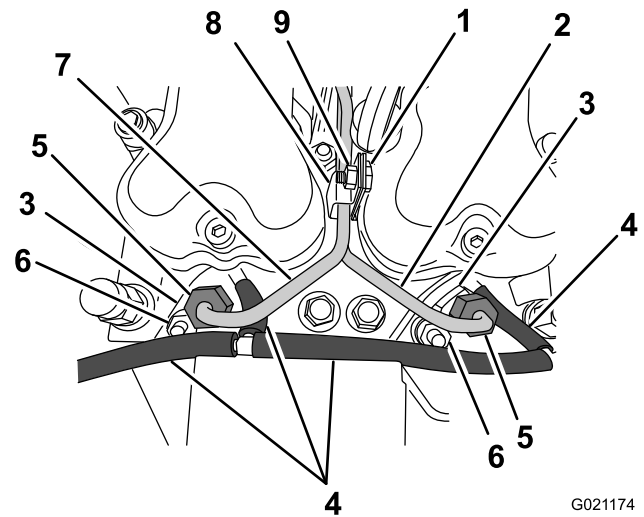
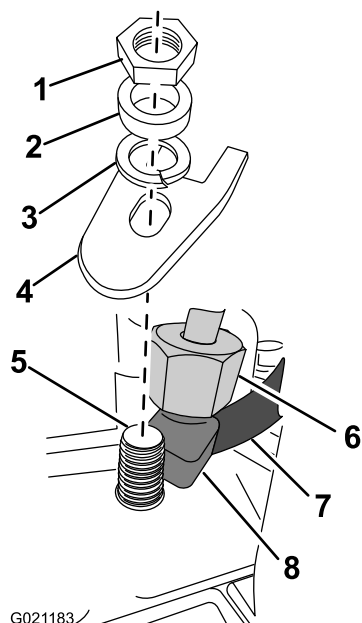

Figure 48
Figure 49
6. Loosen the tube nuts for both of the fuel injectors (Figure 48 and Figure 49).
8. Remove the retainer nuts, washers, lock washers, and retainers that secure the fuel injectors to the cylinder head (Figure 49).